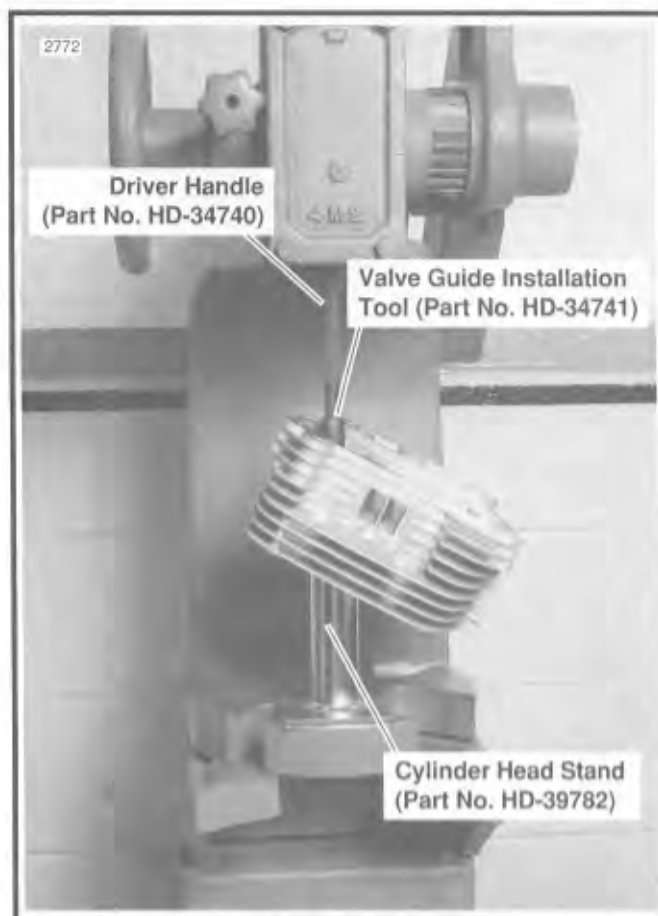

Figure 3-18. Installing Shoulderless Valve Guide
4. See Figure 3-18. Install shoulderless guides using VALVE GUIDE INSTALLATION TOOL (Part No. HD-34731) and DRIVER HANDLE (Part No. HD-34740). Press or drive guide until the tool touches the machined surface surrounding the guide. At this point, the correct guide height has been reached.